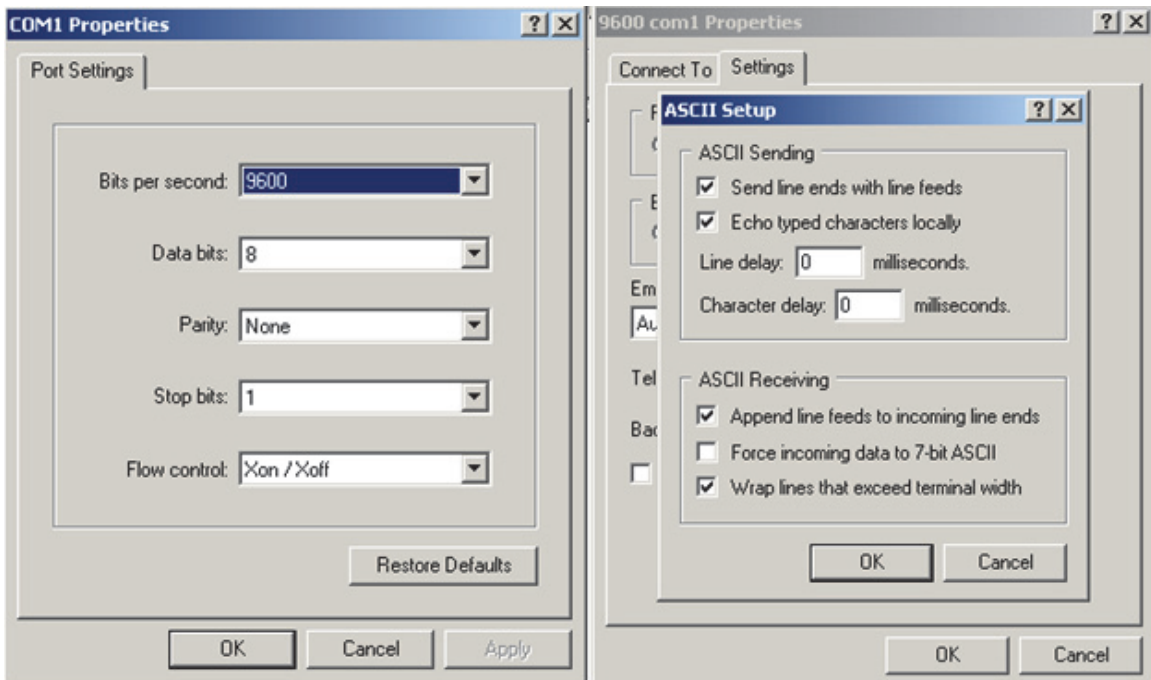

Figure 2. Terminal Settings
2. Connect the other end of the cable to the PC. Terminal settings are shown in Figure 2.